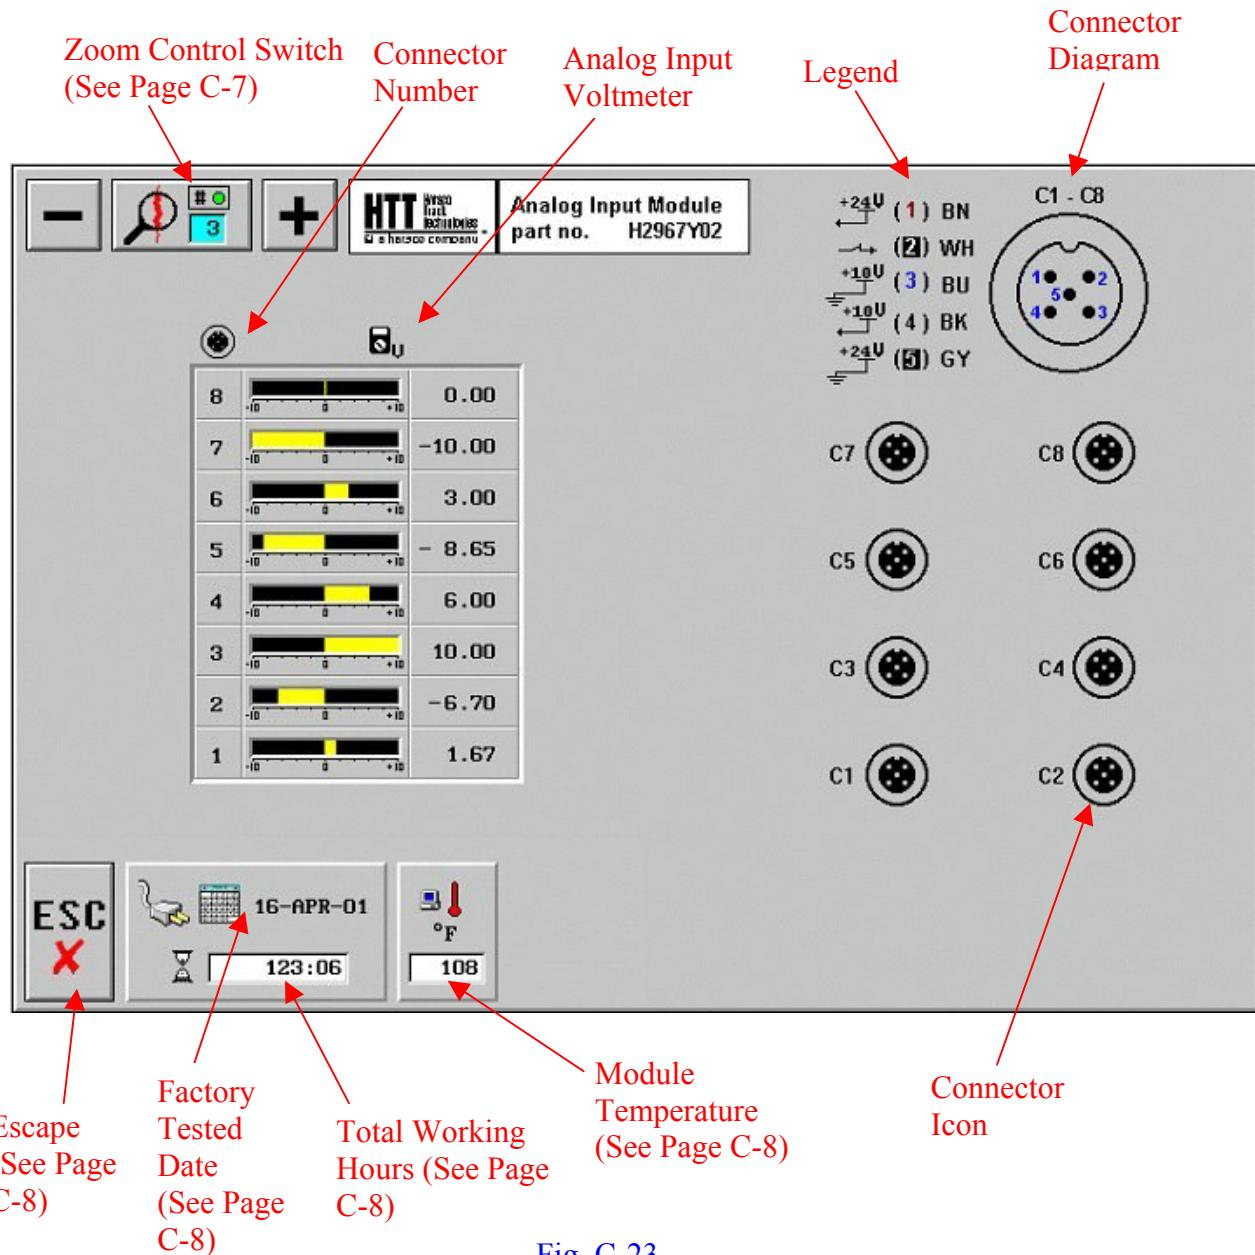

Fig. C-23
**Pin 2** - Signal input, from -10 to +10 volts. (Fig. C-23)
**Analog Input Voltmeter** - The Analog Input Voltmeter measures voltages from a specific device in the network. Analog input voltages range between +10 and -10 VDC. This part of the graphical interface screen does not respond to touch. Voltages will vary depending on the type of device being used. No error LEDs or pop-up screens will appear if the voltage is out of range ( $\pm 10$  VDC). (Fig. C-23)